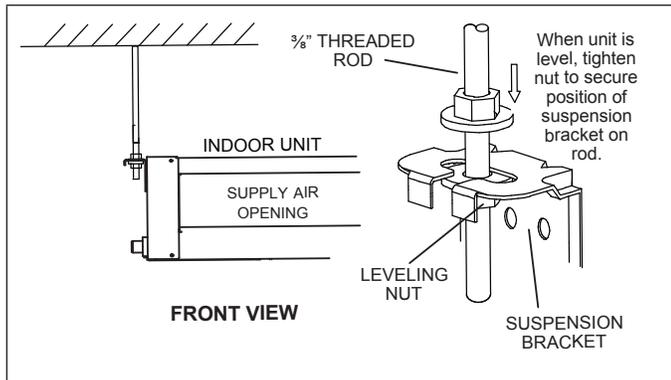

Figure 15. Suspending Hardware
3. Slide one nut and one washer onto each threaded rod. Use electrical tape to keep the washer from falling off. Position the nuts slightly above the final resting place of the four suspension brackets. See "Figure 15.